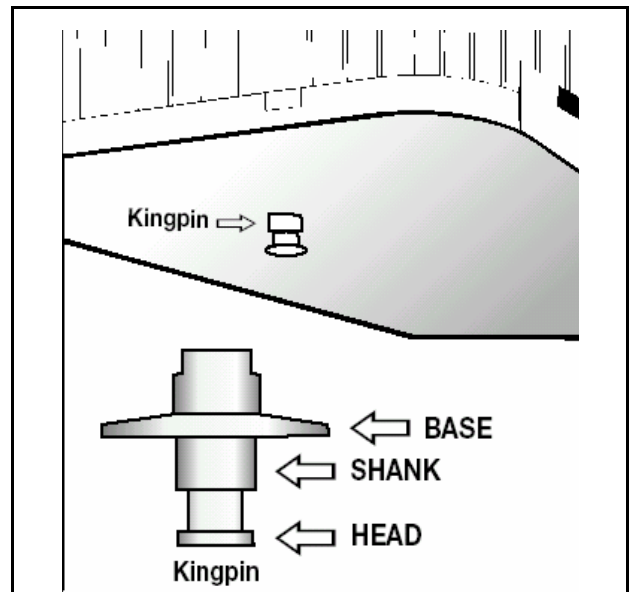

Figure 6.8
- Locking jaws around the shank, not the head of kingpin See Figure 6.8